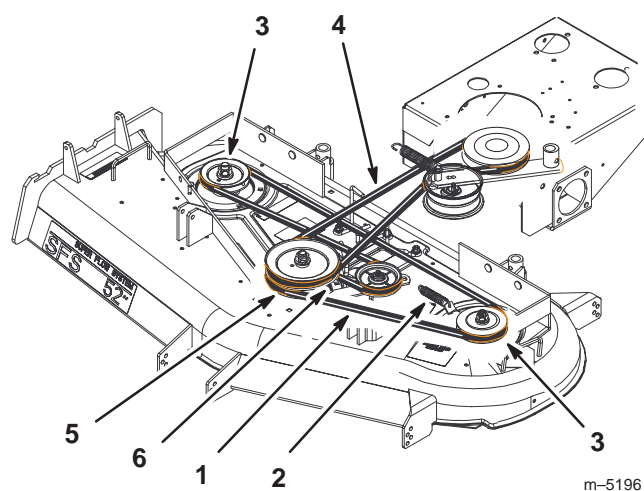

Figure 59
5. Disconnect the idler arm spring to relieve tension on the idler arm and idler pulley, then remove the worn deck belt (Fig. 59).
6. Install the new deck belt around the two outside spindle pulleys, the idler pulley, and in the lower groove of the center spindle pulley (Fig. 59).
7. Connect the idler arm spring (Fig. 59).
11. Adjust deck belt guide an 1/8 in. from belt (Fig. 59).